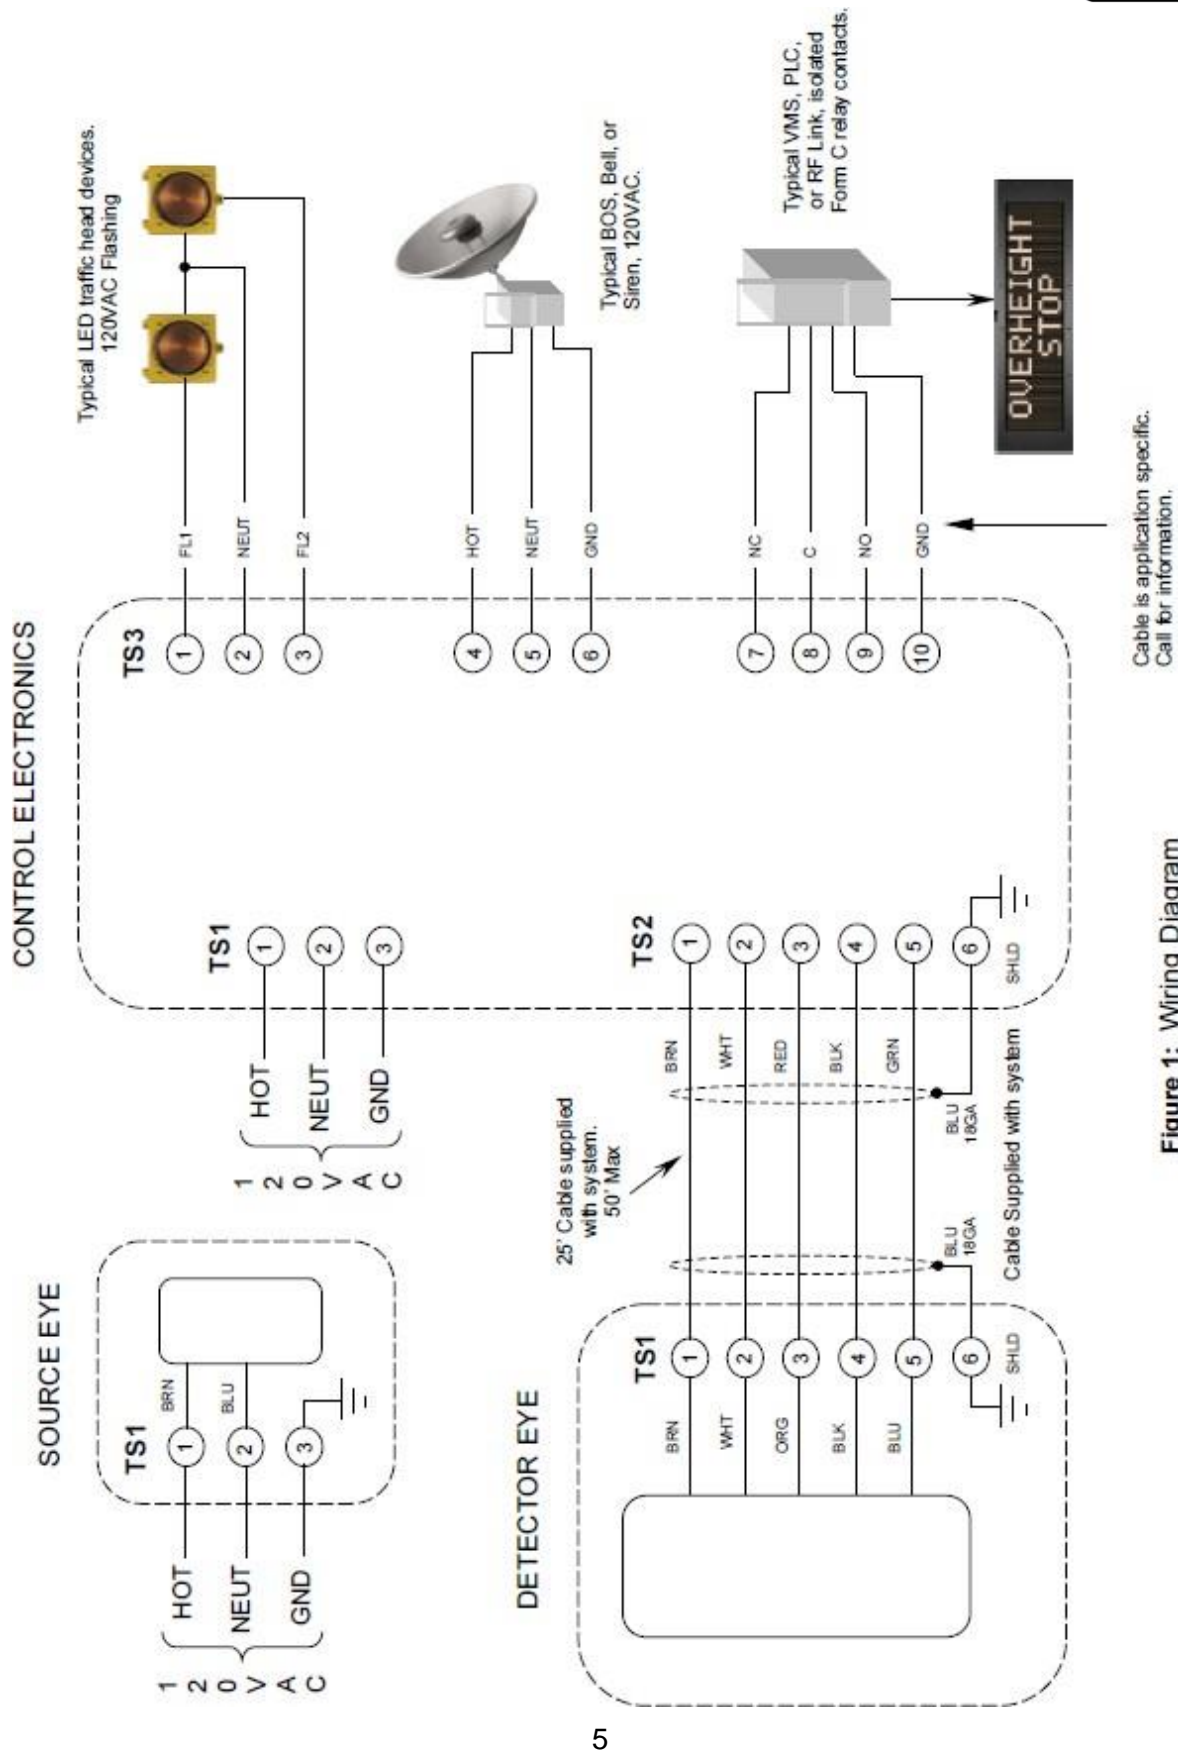

Figure 1: Wiring Diagram
| Figure 1: Wiring Diagram..... | 5 |
Figure 1, WIRING DIAGRAM, shows in simplified form the operation of the system. In normal operation, the Source eye generates a pulsed Infrared beam that is detected by the Detector eye and since the Detector is utilized in the “dark operate” mode, the alarm relay is not energized. Once the beam is broken, the system operates as described above.
1. Refer to Figure 1, Suggested Wiring for the following steps.
2. Connect 120 VAC (230VAC and 24VDC dependent upon power variation) to the Source eye per Figure 1. Suggested Wiring, at the Euro terminal strip. The Amber LED in the Source eye should be on.
3. Connect the 5 conductor, shielded cable to the Euro style terminal strip at the Detector Junction Box per Figure 1.
4. Connect the Detector cable to the Control Electronics Detector Euro style terminal block (TS2) per Figure 1.
7. Connect 120VAC to TS1, Euro style terminal strip in the Control Electronics per Figure 1. Turn power on and the Amber LED in the Detector eye should be on. The Red LED in the Detector eye may also be on. Any alarm devices connected may activate on initial power up for the duration of the alarm time setting.